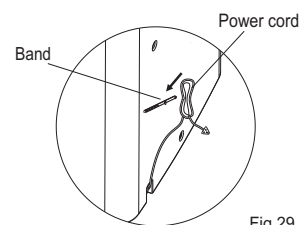

Fig. 29
- Stop the appliance and unplug it, wrapped the cord and bundle it with the tape(Fig.29). Remove the batteries from the remote controller.